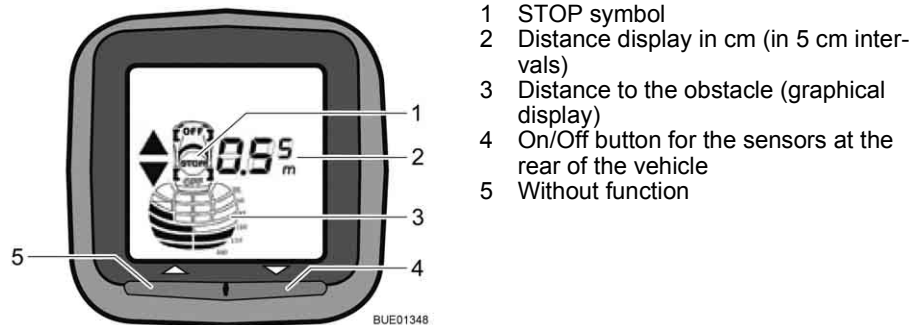

Fig. 16 Park Boy V display unit
In the passenger compartment, a display unit (Fig. 16) shows the distance to the obstacle. At the same time, an acute signal sounds as a warning.
- Press the On/Off button (Fig. 16,4). The display illuminates and the vehicle symbol appears in the display. The parking distance control is ready to measure.
- Press the On/Off button (Fig. 16,4). The parking distance control can be switched off at all times independent of the selected switch-on method using the On/Off key.
The distance between the vehicle and the obstacle is issued in three ways: The display (Fig. 16) shows the distance in steps of 5 cm. The shortest distance measured by a sensor is shown.